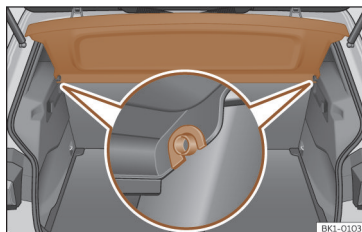

Fig. 162 In the luggage compartment: removing and installing the shelf.
- Remove the rear shelf from the side supports >>> **Fig. 162** by pulling it upwards and then take it out.
- Insert the cover horizontally so that the "recess" fits onto the axis of the supports >>> **Fig. 162** and press down until it engages.